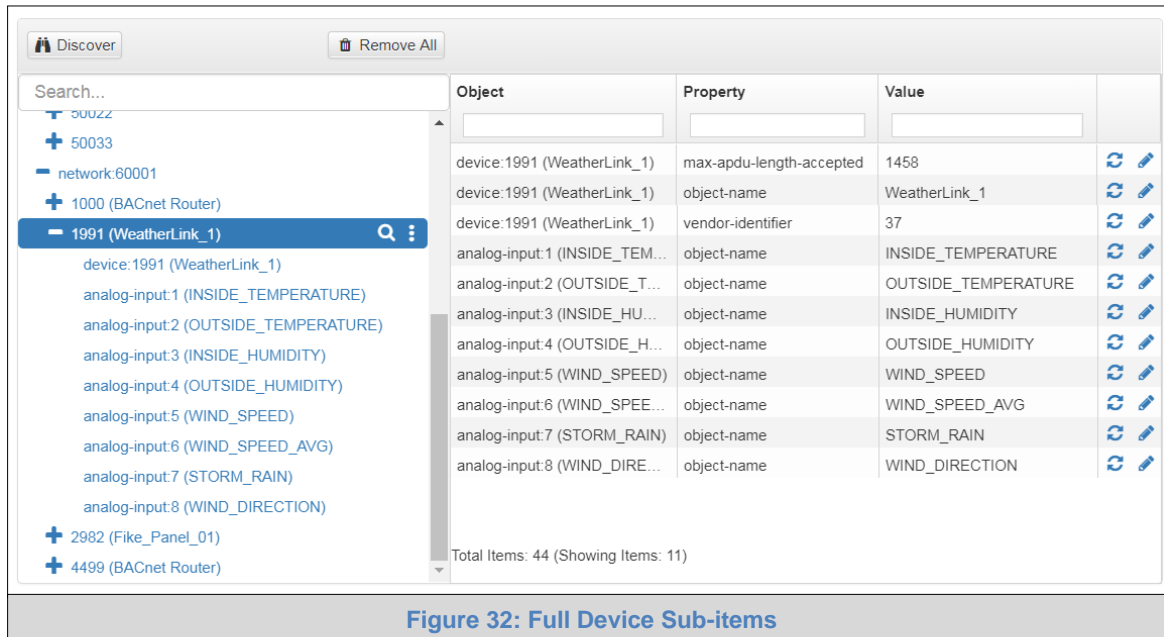

Figure 32: Full Device Sub-items
- To view the full details of a device, highlighting the device directly (in Figure 32 “1991 WeatherLink_1”) and click the Explore button () that appears to the right of the highlighted device as a magnifying glass icon or double-click the highlighted device.